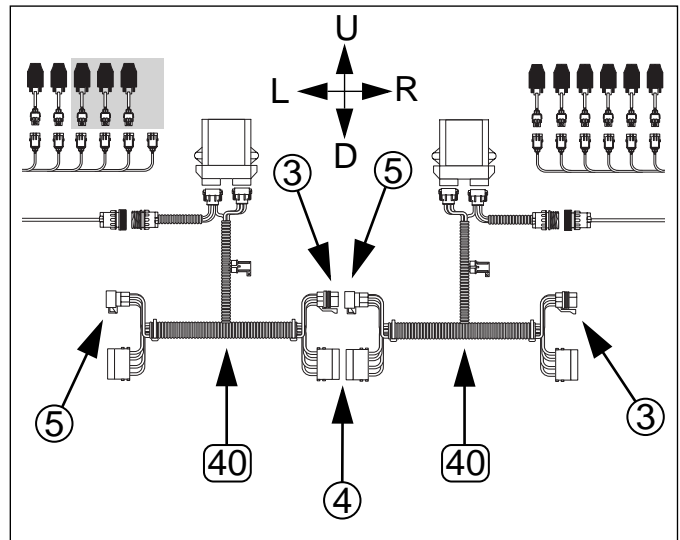

Figure 14: 3N:
Refer to Figure 14
28. At drill center, interconnect the center WSMB harnesses as shown in Figure 14, so that the free end of the CAN bus at right is a receptacle ③.
29. At the right wing, interconnect the wing WSMB harnesses as shown in Figure 14, so that the free end of the CAN bus at right is a receptacle ③.